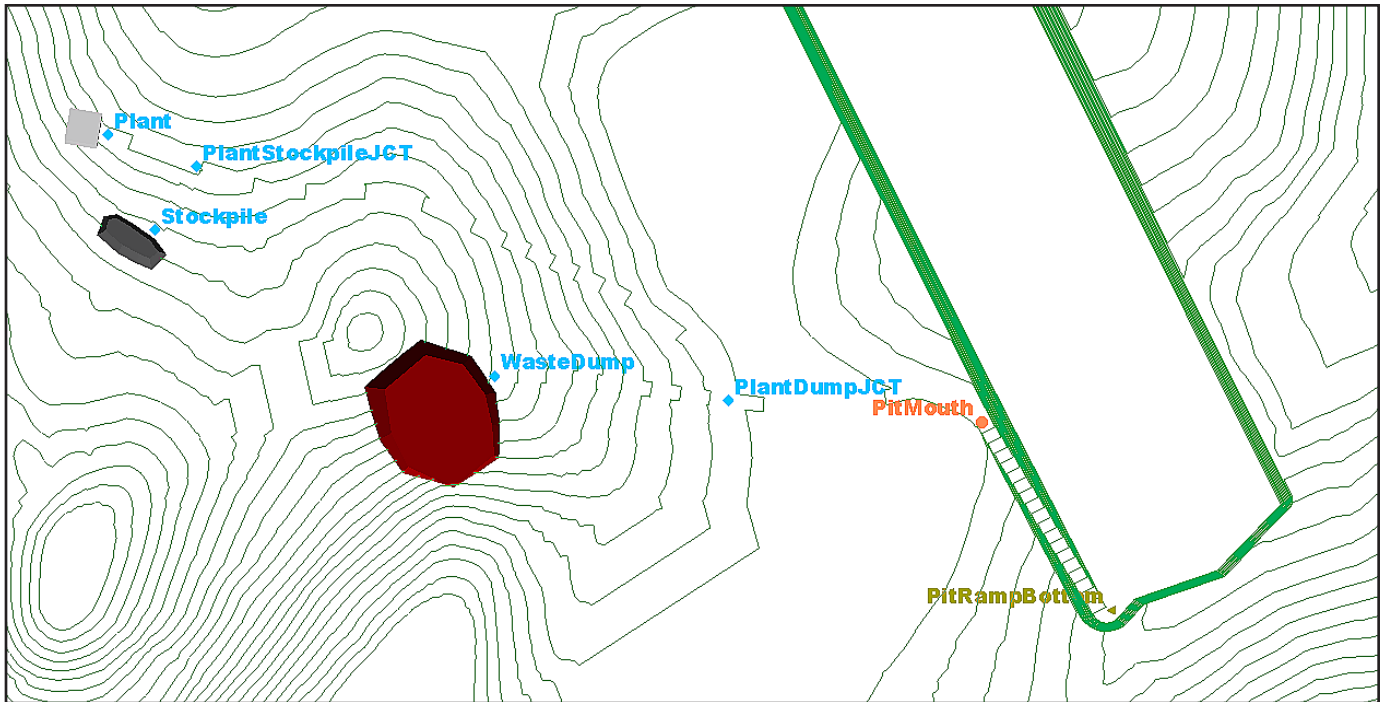

Figure 2. Attributed road network points.
a) Points need to be digitized into a geometry object within the haul road network at sources (e.g., strip pit bottom), destinations (e.g., coal processing plant), stockpiles, and tie-nodes (e.g., road intersections), see figure 2.